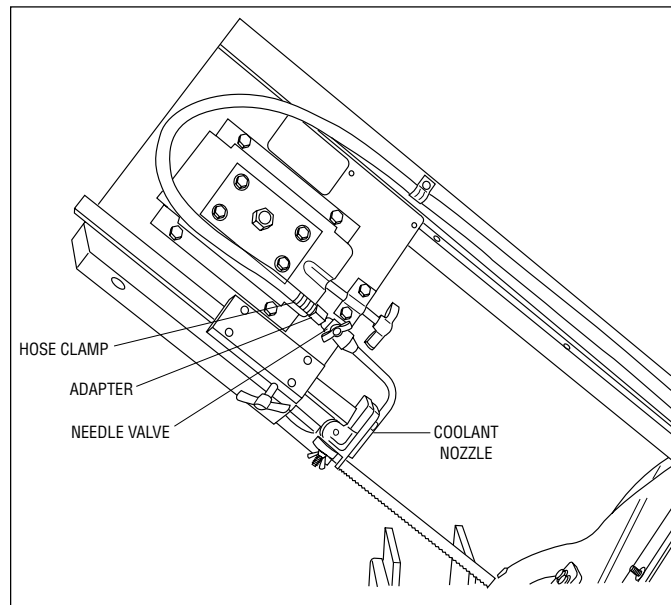

Figure 4
3. See Figure 4. Attach the mounting bracket to the saw bed with four 5/16 - 18 x 3/4 hex head cap screws (20) and lockwashers (21). Use the mounting holes made in Step 4d.